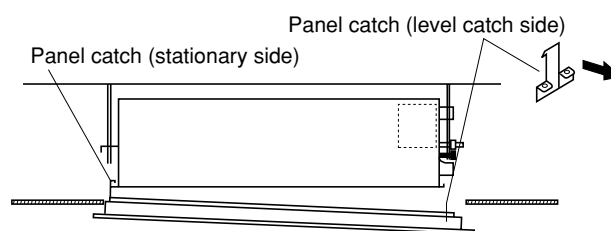

Fig. 9-9
- (1) Lift the ceiling panel and position it to align the panel catches with the catch recesses of the indoor unit.
- (2) Hook the stationary catch first and then press up on the opposite side to engage the level catch to install as shown in Fig. 9-9.
Completely remove the ceiling panel by disengaging the stationary catch. (Fig. 9-9)